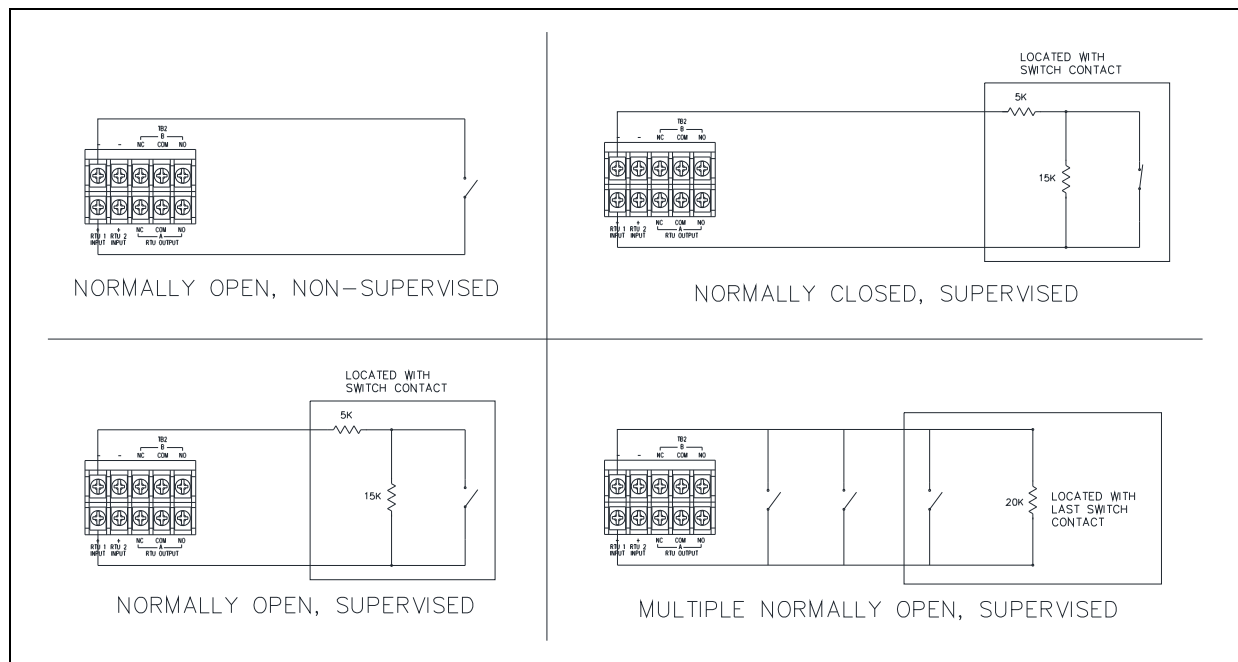

Figure 7. RTU Input Wiring Configurations for Cable Monitoring
5. Install end-of-line resistors as shown to enable RTU input-cable monitoring (see Figure 7):